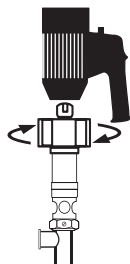
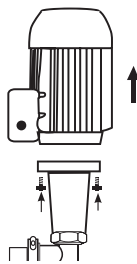

Figure 3
Figure 4
4. Remove motor from pump tube. For models SP-800SR: loosen Hex Nut in clockwise rotation (see Figure 3). For models SP-800DD: loosen (4) bolts that attach the pump to the motor (see Figure 4).
- Reattach motor and resume operation. (SP-800SR: see Figure 3, page 4); (SP-800DD: see Figure 4, page 4).